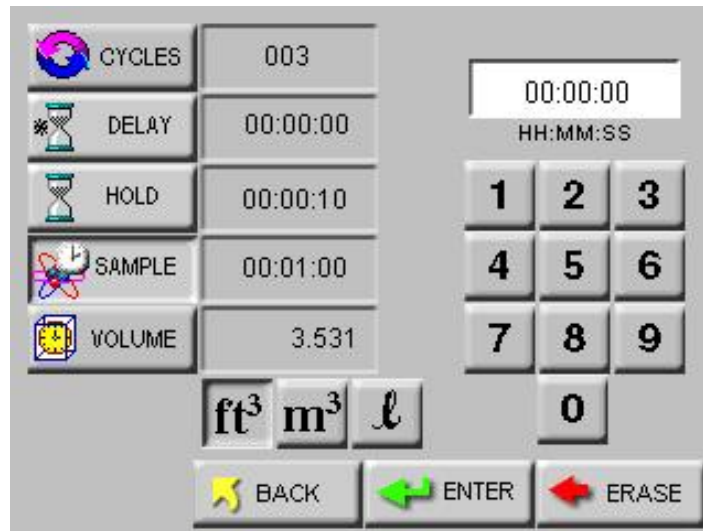

Figure 6-96 Reports Sample Screen
- Select the **SAMPLE** button to configure the number of Cycles, Delay time, Hold time, Sample time and Volume. See Figure 6-96.